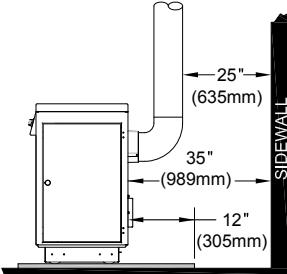

FIG. 2 (SIDE VIEW)
Minimum clearances to unprotected combustible walls and ceilings as noted by figures 2 through 4 must be maintained. Drapes, curtains, furniture and other combustible materials should be kept much further away from the heater to avoid fire. If you choose to, you may install the heater and chimney connector closer to combustible surfaces than indicated by Figures 2 through 4 **IF** a clearance reduction system is also installed to protect combustible ceilings and walls near the heater and chimney connector. However, there are limits to how close the heater and chimney connector can be installed to combustible surfaces protected by a clearance reduction system.
3. Check Figures 2, 3, and 4. Be sure you have the clearances shown from the heater and the connector pipe to combustible surfaces. If you have a solid brick or stone wall behind your heater, you can place the heater as close as you wish to the wall. If the wall is only faced with brick or stone, treat it as a combustible wall.